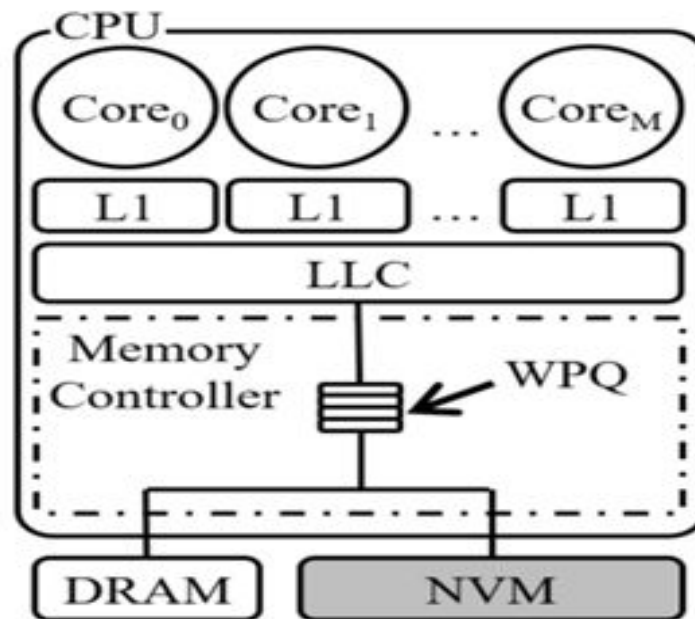

Fig 2.1 Heterogeneous Memory System
- a. Byte-addressable Non-volatile memories (NVM) are gaining more attention in both industry and academia. They are expected to achieve a closely matched performance with DRAM while offering the durability feature (data in NVM can survive a system reboot or crash, like storage devices). In Fig 2.1, NVM is attached to the memory bus, and can only retain data that is written to the NVM before a system crash or reboot. Due to the volatile cache hierarchy including the memory controller's queues, there is additional work required to ensure the data is still consistent inside the NVM in the presence of system failure (crash-consistency) because of two reasons. One of them is the order of write operations to NVM: